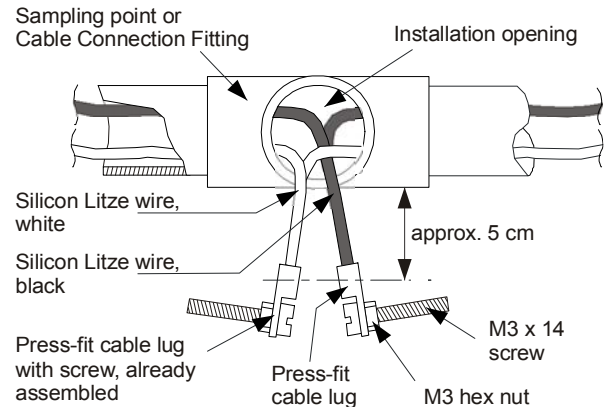
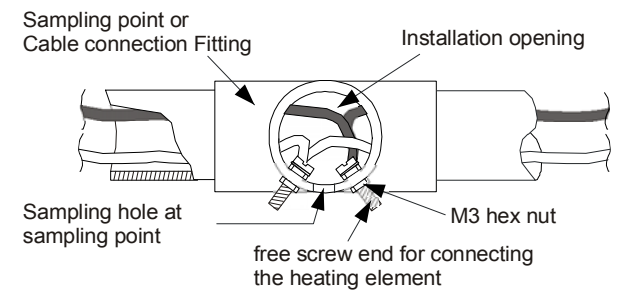

Fig. 6 Connecting the silicon Litz wires
Fig. 7 Fastening the connection points
- Shorten the wire loops which are in the open through the installation openings to about 5 cm. Strip about 8 mm of insulation from the wire ends. The same colour silicon Litz wires are then twisted together and fitted with a previously assembled press-fit cable lug with screws, **Fig. 6**.
- Both pairs of wires are pushed back through the installation opening into the sampling point. The screws of the press-fit cable lug are introduced from inside through the existing fastening holes in the sampling point and fastened from outside with an M3 hexagon nut, **Fig. 7**.
- When connecting a cable connection fitting, proceed as described above according to **Fig. 6** and **Fig. 7**.